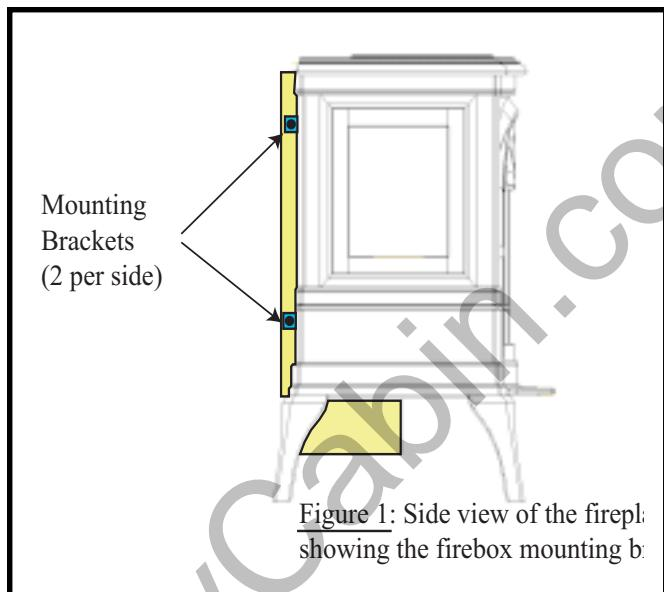

Figure 1: Side view of the fireplace showing the firebox mounting brackets.
4. Locate the firebox mounting brackets on the side of the firebox. Remove the screws securing the firebox to the mounting brackets. (Figure 1).
4. Locate the firebox mounting brackets on the side of the firebox. Remove the screws securing the firebox to the mounting brackets (Figure 1).